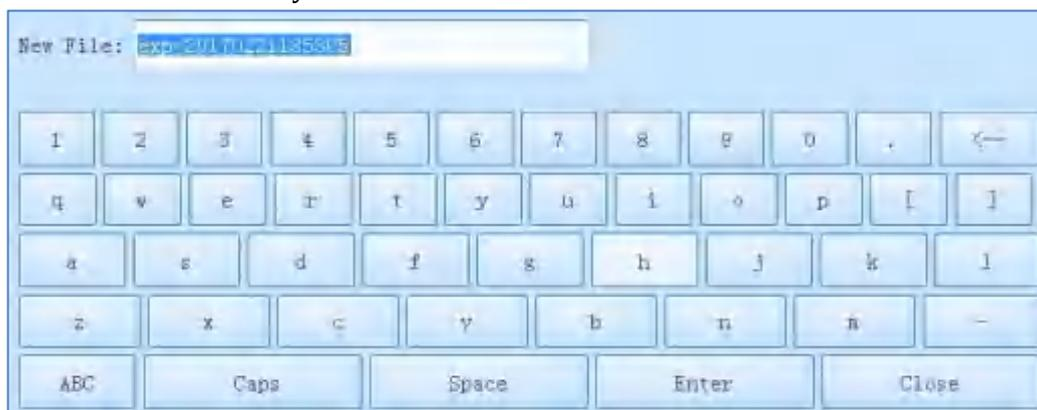

Figure E-2.4. Experiment File tab - keyboard
- 🔴 **Reminding:** the system will pop up a keyboard for user to name the new experiment file or file folder, as shown in figure E-2.4. User can press < **Close** > to exit the keyboard.